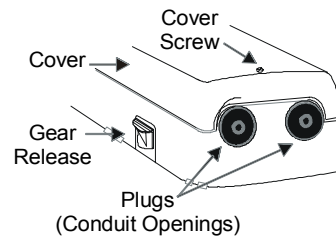

Figure 10: Location of the Conduit Openings
1. Push the plastic conduit plug out of the conduit opening with fingertip. (See Figure 10.)